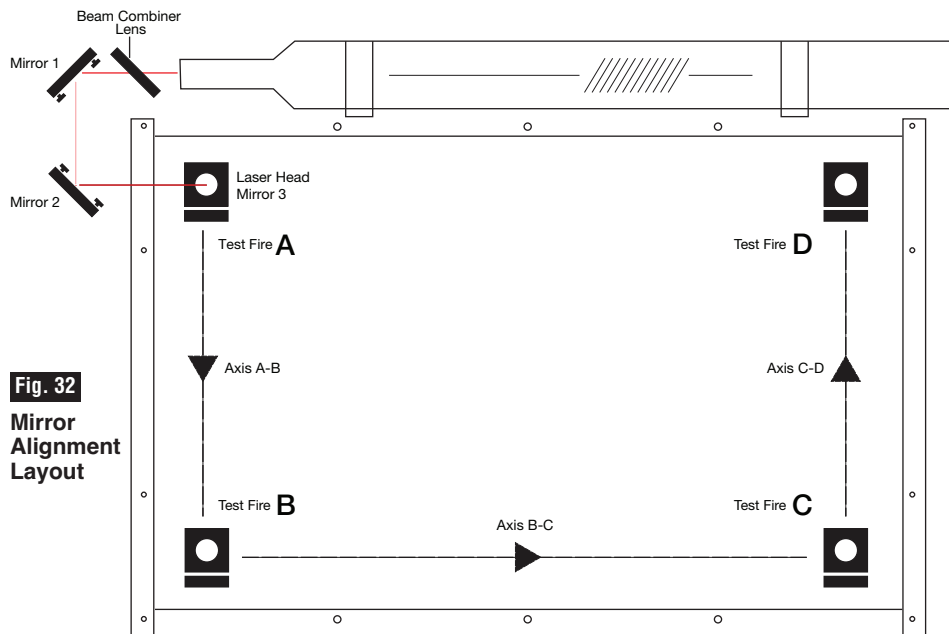

Fig. 32
Before running the first job, check to make sure that the mirrors are properly aligned. This test should also be performed as a troubleshooting measure for power loss, clipping, or incomplete cutting. For this alignment test the laser must be “test fired” once in each corner of the machine. This is done to make sure the laser beam is following the correct path to the mirrors, to the focus head, and ultimately through the lens to the material. Figure 32, Mirror Alignment Layout.
3. Position the Laser Head: Move the laser head into the upper left corner (Location A) of the workspace, see Figure 32.
6. Repeat Test Fire in other three corners: Without removing the thermal paper, repeat firing the laser once in each of the other corners of the machine (Lower Left B, Lower Right C, Upper Right D). See figure 32.
4. Move the Gantry to position B, see figure 32.